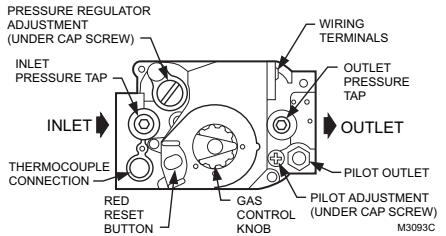

Fig. 5. Top view of gas control.
Models with slotted pressure regulator cap, (see Fig. 5), require a conversion kit. Gas controls with standard or slow opening regulators can be converted from one gas to the other with a conversion kit (ordered separately). Order part no. 393691 to convert from natural (manufactured) to LP gas; order part no. 394588 to convert from LP to natural (manufactured) gas. Follow instructions provided with kit. Gas controls with step opening regulators cannot be converted.
6. Connect pipe to gas control inlet and outlet. Use wrench on the square ends of the control. If a flange is used, place wrench on the flange rather than on the control. (See Fig. 5 and 6).
3. Unscrew compression fitting from the pilot outlet. (See Fig. 5). Slip the compression fitting over the tubing and slide tubing out of the way.
1. Remove the pilot adjustment cover screw. (Refer to Fig. 5).